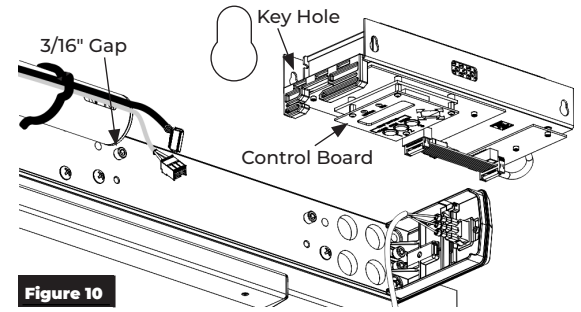

Figure 10
1. Insert two (2) screws. Leave 3/16" gap between head of screw and backplate. (Figure 10)
2. Slide power supply key holes over screws allowing narrow slots of key holes to rest on screws. (Figure 10)